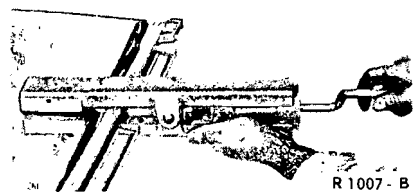

FIG. 20—Glass Channel Replacement
9. Using a tool such as shown in Fig. 20, remove the glass. Remove the weatherseal.
1. Open the vent window and remove the glass from the vent window frame with the tool shown in Fig. 20.
3. Install the glass and new tape in the window frame with the tool shown in Fig. 20.
The vent window glass may be removed and/or installed by using the tool shown in Fig. 20. When installing new glass, use new glass tape, and apply sealer to the frame horizontal channel and to the other channel in the area of the upper pivot.
1. Using the tool shown in Fig. 20, remove the channel from the glass.
9. Remove two screws attaching the frame and channel together and remove the frame and channel from the glass (Fig. 20).
2. Install the frame and channel on the glass with the tool shown in Fig. 20.